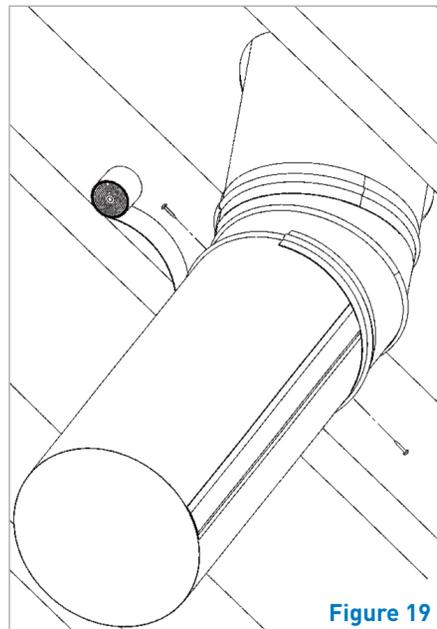

Figure 19
- Using a 3mm bit, drill a pilot hole through the overlapped end of the intermediate elbow and the crimped end of the intermediate tube. Secure into place using one of the self tapping screws provided. Repeat this process to fix another screw in place directly opposite to the first (Figure 19).